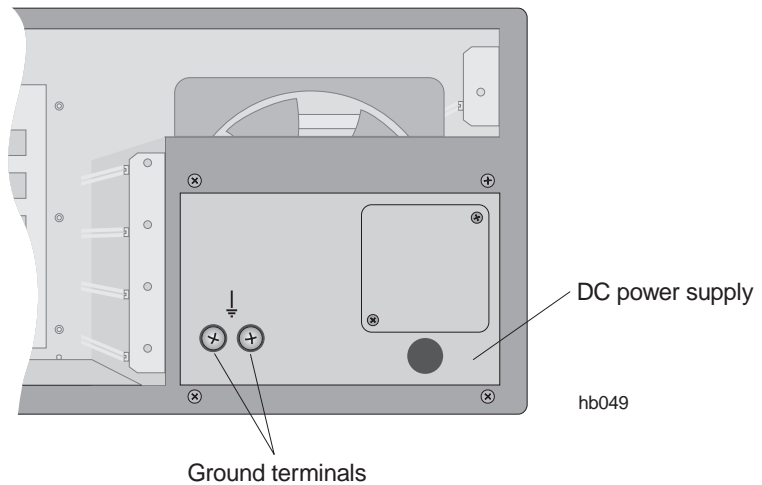

Figure 6-12 Ground terminals on dc power supply
1. Use a 2-hole lug to connect a No. 14 AWG ground wire to the ground terminals on the front of the power supply (figure 6-12).